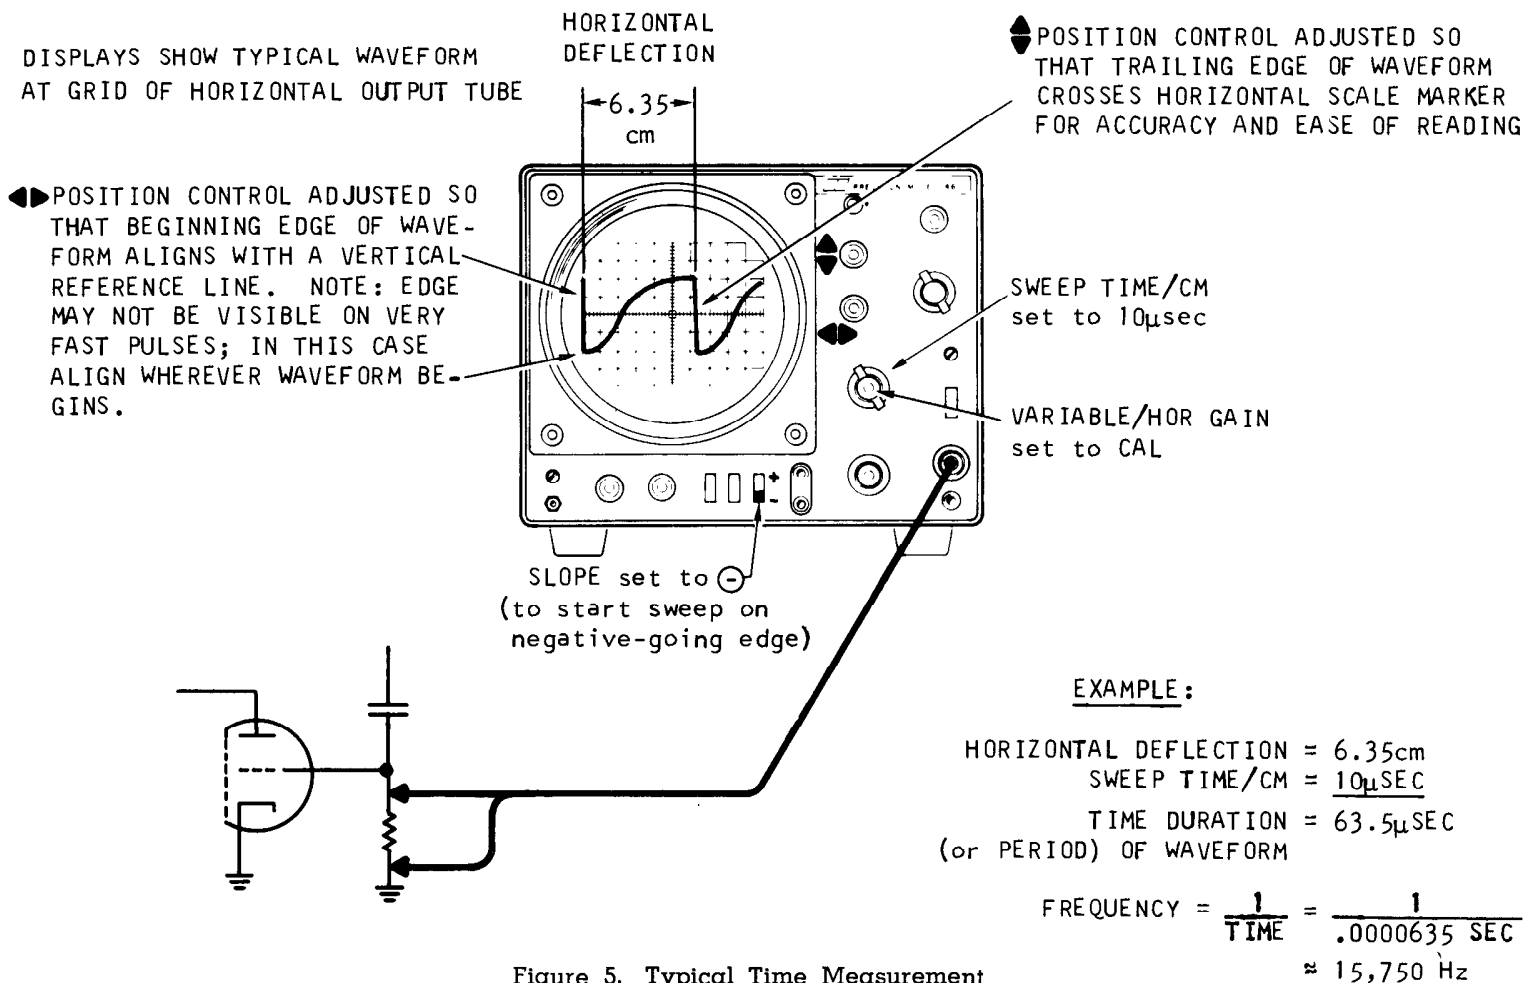

Figure 5. Typical Time Measurement
6. Calculate the time duration as follows: Multiply the horizontal deflection (in cm) by the SWEEP TIME/CM control **8** setting (see example in Figure 5). Remember, when the 5X magnification is used, the result must be divided by 5 to obtain the actual time duration.